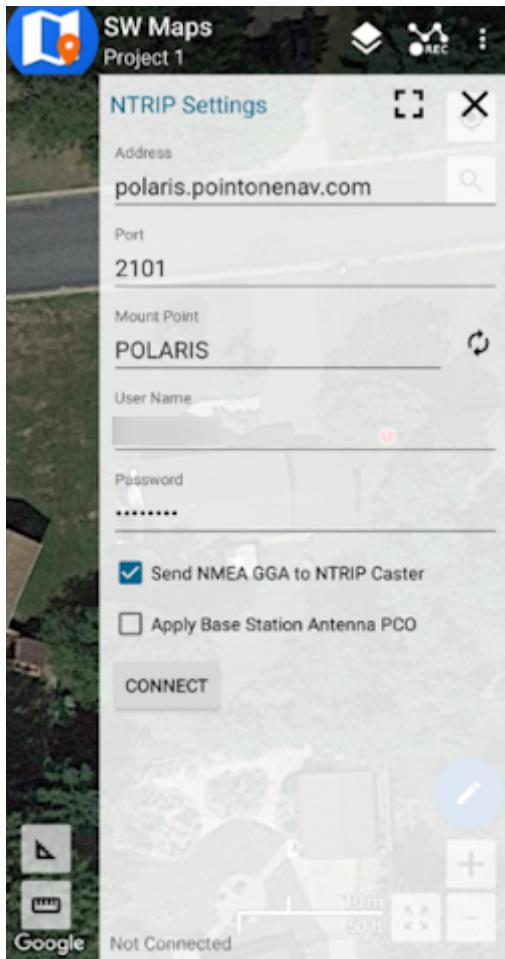

Figure 1
4. Enter the credentials provided by PointOneNav and click Connect (Figure 1). Verify that *Send NMEA GGA* is checked.